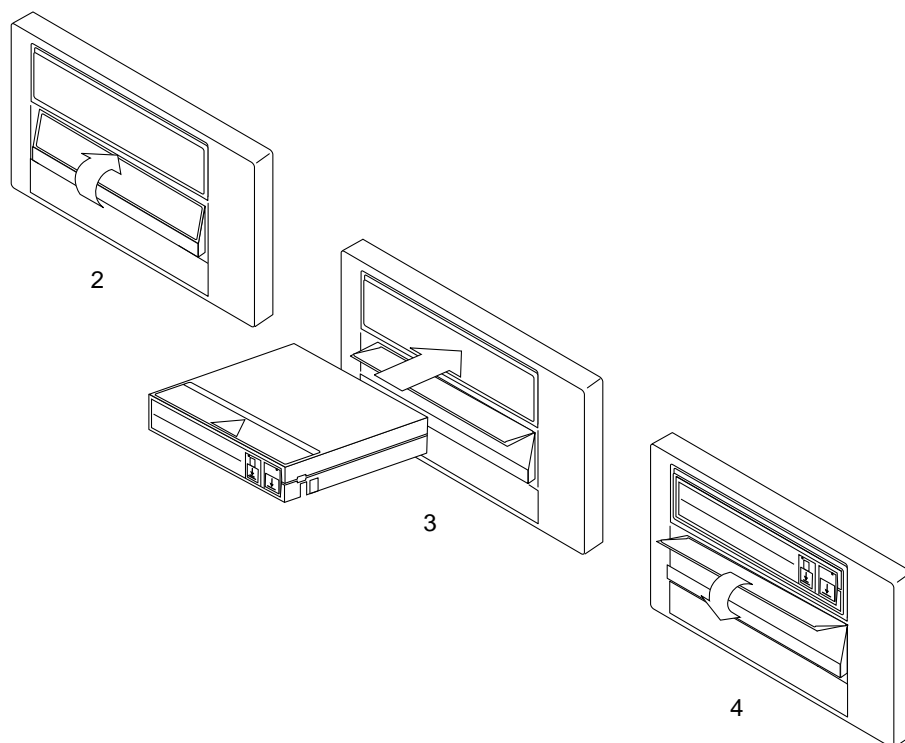

Figure 2-3 Loading a Tape Cartridge
2. **Lift the cartridge insert/release handle (Figure 2-3).**